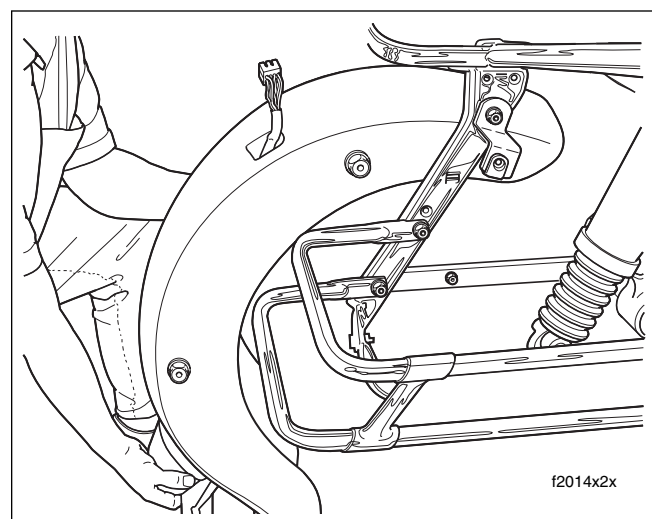

Figure 2-195. Carefully Roll Out Rear Fender
14. Exercising caution to avoid scratching fender paint on luggage rack or other bracketry, carefully roll the fender out. See Figure 2-195. If necessary, have one person spread the saddlebag support brackets while the fender is rolled out.
1. Exercising caution to avoid scratching fender paint on luggage rack or other bracketry, carefully roll the fender in. See Figure 2-195. If necessary, have one person spread the saddlebag support brackets while the other rolls the fender in.